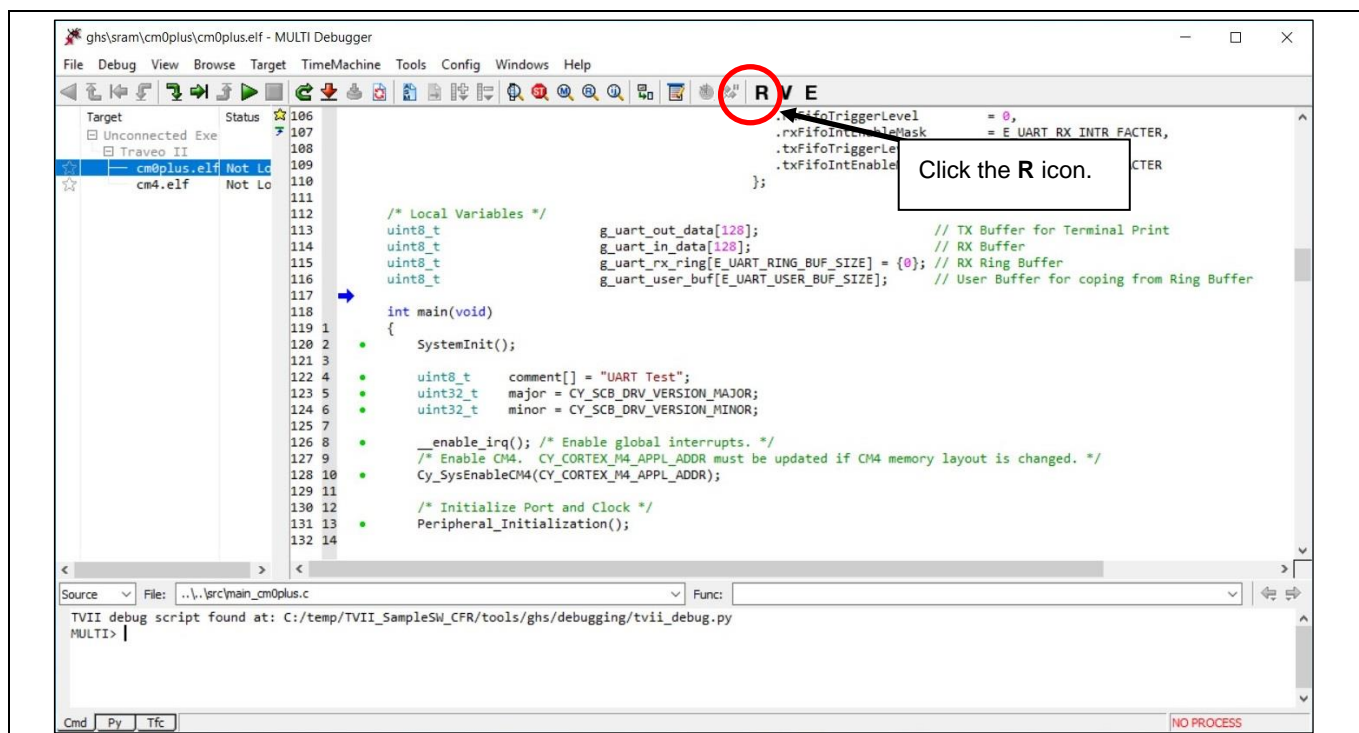

Figure 12 Load to RAM
- To load the program to the RAM, click the **R** icon as shown in **Figure 12**. Loading of the program to the RAM begins.